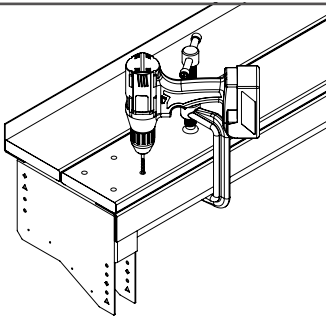

Fig. 87
7. Insert 3/8" x 4" [10mm x 102mm] Hex Head bolts and washers through pre-drilled holes. As shown in Fig. 87.